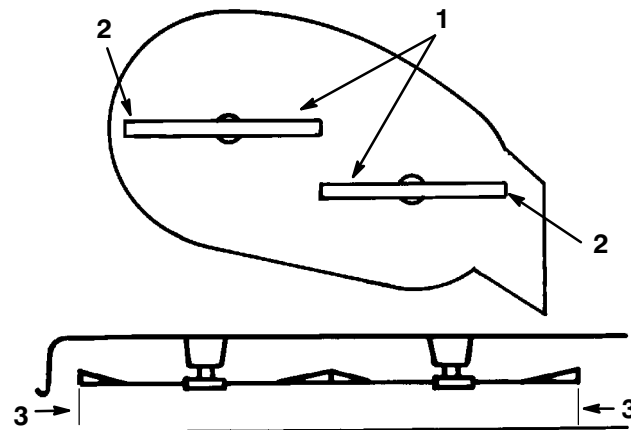

Figure 9
3. Carefully rotate blade(s) side to side (Fig. 9). Measure between the outside cutting edges and the flat surface (Fig. 9). If both measurements are not within 3/16" (4.762mm), an adjustment is required; refer to steps 4 through 6.